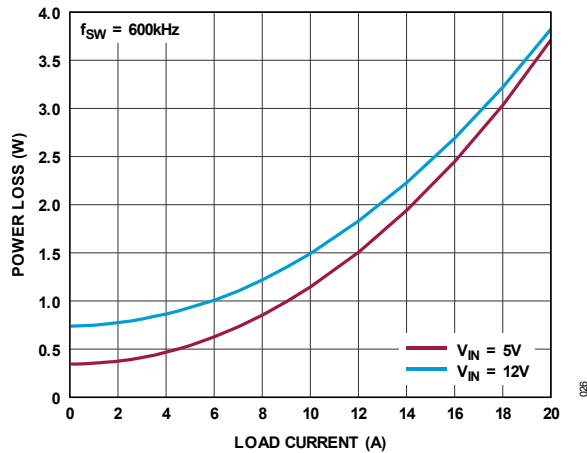
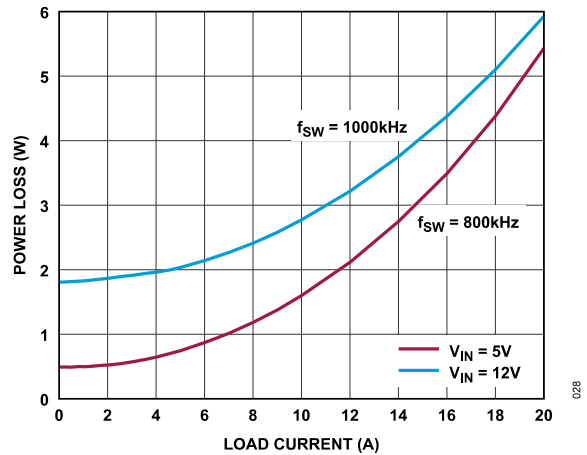
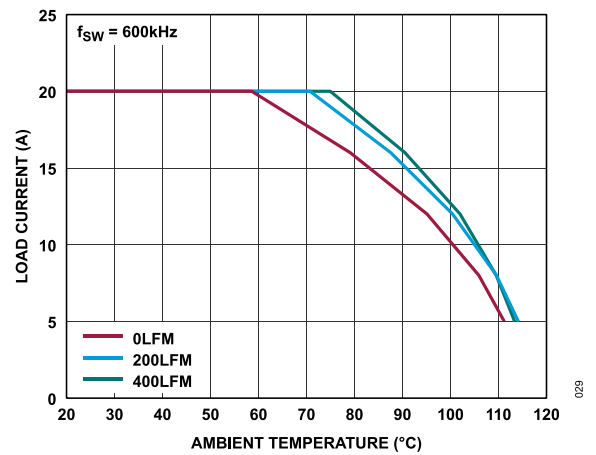

Figure 26. Power Loss at 1V Output
Figure 28. Power Loss at 3.3V Output
Figure 29. 5V to 1V Derating Curve, No Heat Sink
Many designers may use laboratory equipment and a test vehicle, such as an evaluation (demo) board, to anticipate the μ Module regulator's thermal performance in their application at various electrical and environmental operating conditions to complement any FEA activities. Without FEA software, the thermal resistances reported in the Pin Configurations and Function Descriptions section are, in and of themselves, not relevant to providing guidance on thermal performance; instead, the derating curves provided in Figure 29 through Figure 34 can be used in a manner that yields insight and guidance about the user's application and can be adapted to correlate thermal performance to the user's application.
simplicity—but also, not ignoring practical realities—an approach has been taken by using FEA software modeling and laboratory testing in a controlled environment chamber to reasonably define and correlate the thermal resistance values supplied in this data sheet: (1) Initially, FEA software accurately builds the mechanical geometry of the LTM4640 and the specified PCB with all of the correct material coefficients and accurate power loss source definitions; (2) this model simulates a software-defined JEDEC environment consistent with JSED5112 to predict power loss heat flow and temperature readings at different interfaces that enable the calculation of the JEDEC-defined thermal resistance values; (3) the model and FEA software evaluates the LTM4640 with heat sink and airflow; (4) having solved for and analyzed these thermal resistance values and simulated various operating conditions in the software model, a thorough laboratory evaluation replicates the simulated conditions with thermocouples within a controlled environment chamber while operating the device at the same power loss as the one which was simulated. An outcome of this process and due diligence yields the set of derating curves shown in Figure 29 through Figure 34. After these laboratory tests have been performed and correlated to the LTM4640, then the θ_{JB} and θ_{BA} are summed together to provide a value that should closely equal the θ_{JA} value because approximately 100% of power loss flows from the junction through the board into ambient with no airflow or top mounted heat sink.
The 1V, 1.5V, and 3.3V power loss curves in Figure 26 through Figure 28 can be used in coordination with the load current derating curves in Figure 29 through Figure 34 for calculating an approximate θ_{JA} thermal resistance for the LTM4640 with various airflow conditions. The power loss curves are taken at room temperature and are increased with a multiplicative factor according to the ambient temperature. This approximate factor is 1.2 for 120°C, at junction temperature. The maximum load current is achievable while increasing ambient temperature if the junction temperature is less than 120°C, which is a 5°C guard band from a maximum junction temperature of 125°C. When the ambient temperature reaches a point where the junction temperature is 120°C, then the load current is lowered to maintain the junction at 120°C, while increasing ambient temperature up to 120°C. The derating curves are plotted with the output current starting at 20A and the ambient temperature at 30°C. The output voltages are 1V, 1.5V, and 3.3V. These are chosen to include the lower and higher output voltage ranges to correlate the thermal resistance. Thermal models are derived from several temperature measurements in a controlled temperature chamber and thermal modeling analysis. The junction temperatures are monitored while ambient temperature is increased with and without airflow. The power loss increase with ambient temperature change is factored into the derating curves. The junctions are maintained at 120°C maximum while lowering output current or power with increasing ambient temperature.